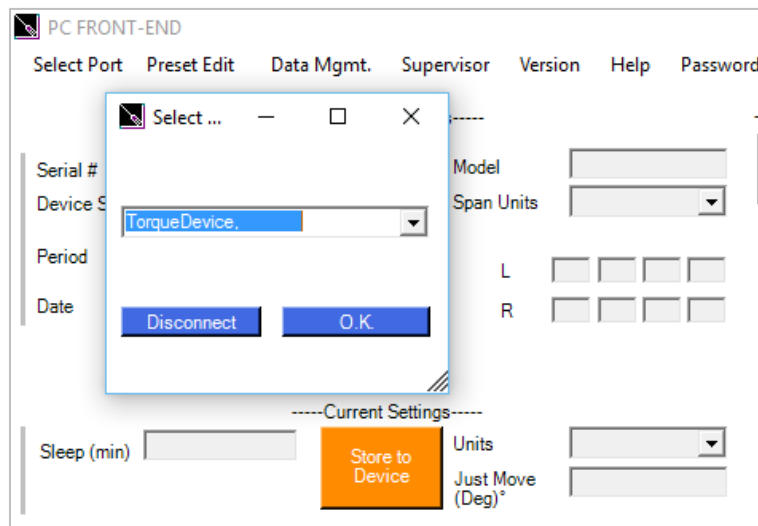

Figure 2: Selecting suitable COM port
1. **Select Port:** Allows the User to connect with the torque device (*See Figure 2*).